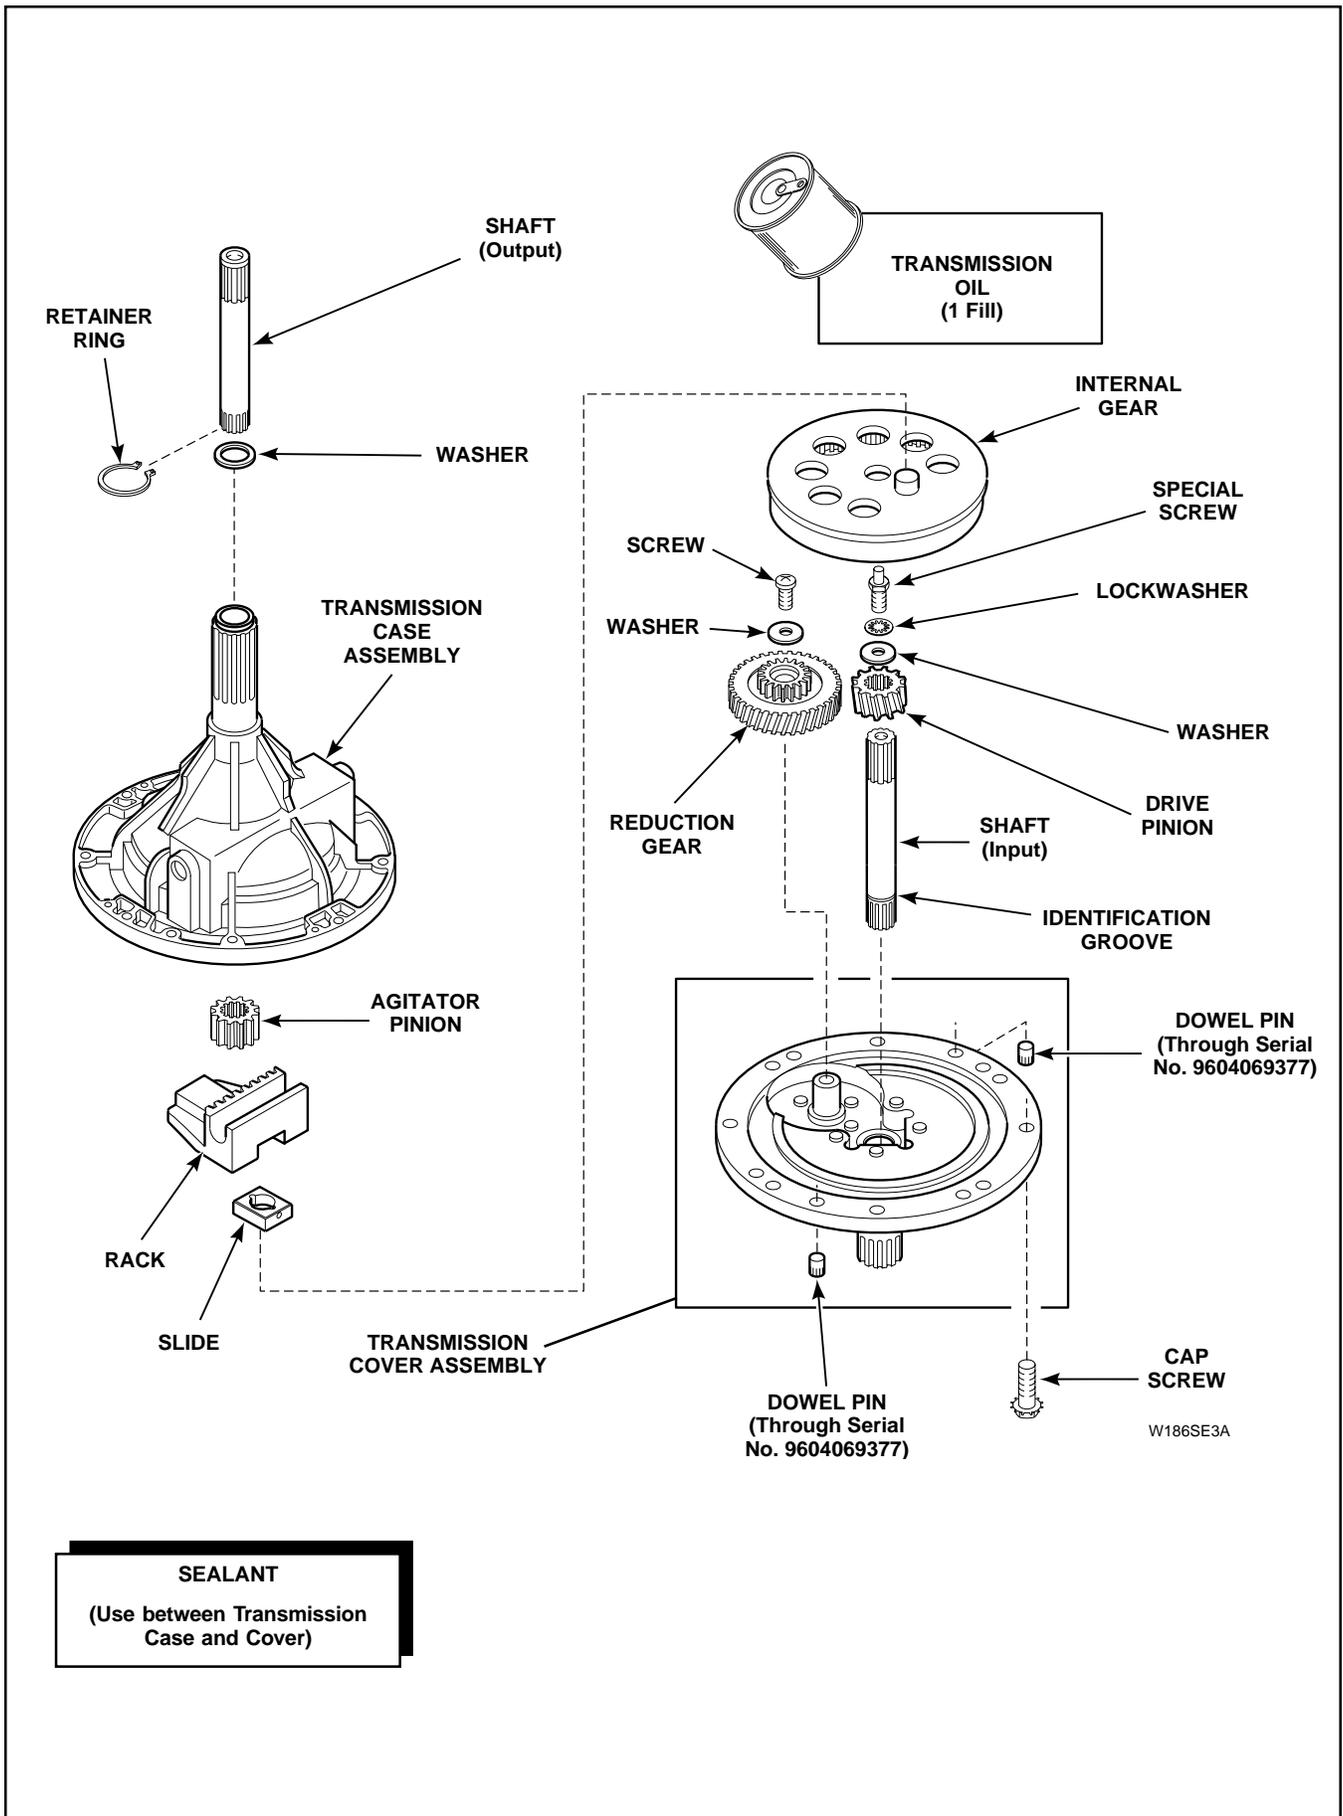

Figure 45
### **TRANSMISSION DISASSEMBLY: (Refer to Figure 45 for assembly sequence)**
**IMPORTANT: End of shaft with identification groove, *Figure 45*, must be facing outward. This is the end that will mate with helix.**